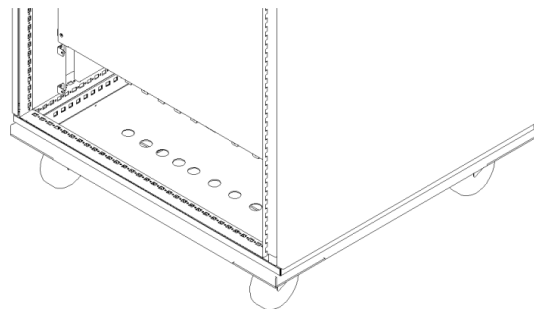

Figure 2-3 Entrance hole
Remove the bottom baffle (Figure 2-2), the user can connect the ground protection line (PE), N, AC three-phase input lines (A, B, C) and the output DC lines (DC+, DC-) into the cabinet through the hole ① and ② (Figure 2-3).